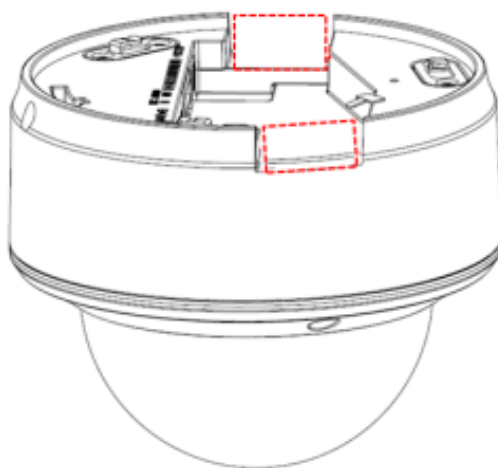

Figure 3-2 Side Clips
1. (Optional) use a plier to remove one clip or both two clips (marked in dotted line in Figure 3-2) on the side of the back box and then route cables through the opening to secure the cables on the ceiling.